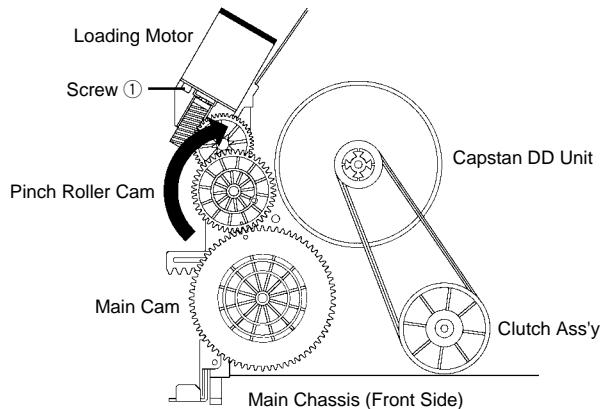

Fig. 2
1. Remove the Top Cabinet, Front Cabinet and DVD Block. (Refer to item 1 of the DISASSEMBLY INSTRUCTIONS.)
2. Remove the screw ① of the Deck Chassis and remove the Loading Motor. (Refer to Fig. 2)